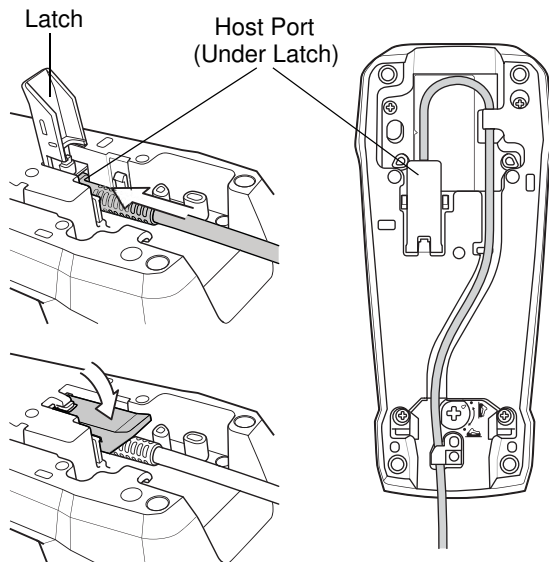

Figure 1-3 *Connecting the Cables to the Cradle*
3. Lift the latch and connect the interface cable into the cradle's host port and then close the latch. See Figure 1-3.